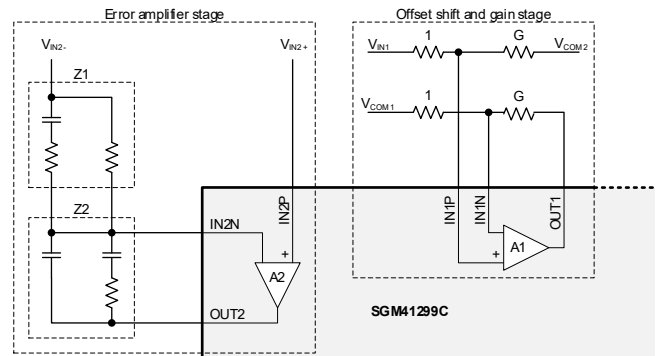

Figure 11. Using SGM41299C Amplifiers
Figure 11 shows an applicable circuit in which A2 is used to make an error amplifier with external compensation network Z1 and Z2, and A1 is used to make a gain (G) stage with level shifting from  $V_{COM1}$  at input side to  $V_{COM2}$  at output (OUT1). The temperature setting can be fed into either  $V_{IN2+}$  or  $V_{IN2-}$  and the temperature sensor (for example NTC) can replace one of the four resistors.